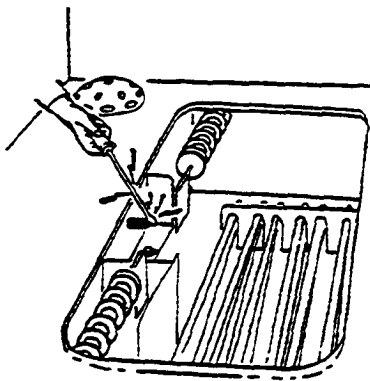

Figure 2-24. Shorting Flood Probe
5. As illustrated in figure 2-24, use a screwdriver to short the flood probe to ground for four seconds. The FLOOD alarm light flashes. Push the POWER touch pad. The unit will not turn on. The FLOOD alarm light continues to flash.